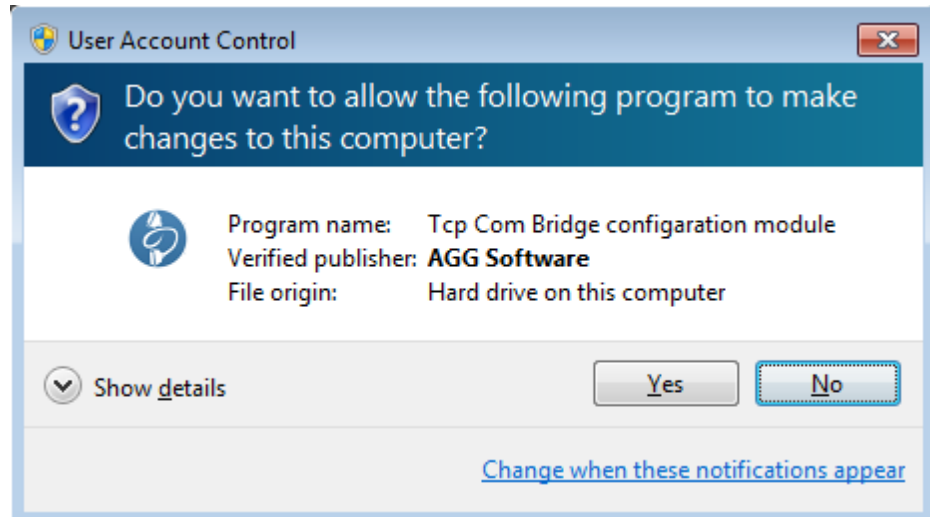

Figure 2: User Account Control dialog box
3. Windows Vista will ask your permission to continue the installation (Figure 2).